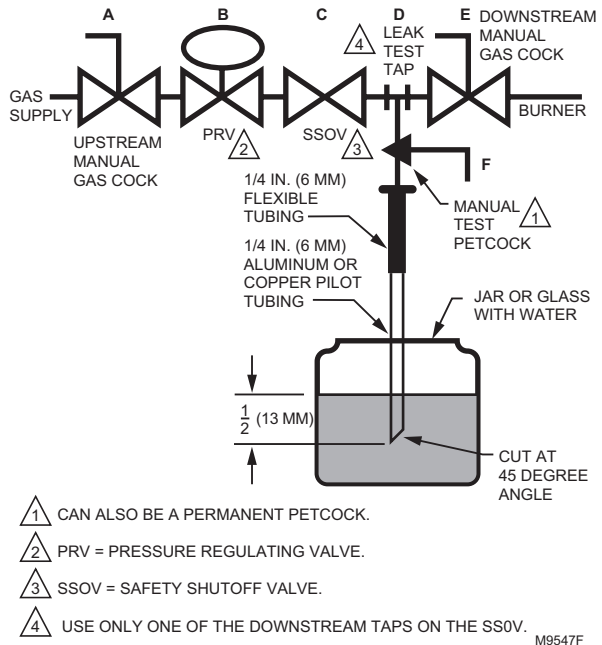

Fig. 7. Valve leak test.
### Valve Leak Test (Fig. 7)
1. De-energize the control system to assure that there is no power to the safety shutoff valve (C) shown in Fig. 7.
2. Close the upstream manual gas cock (A).
3. Make sure the manual test petcock (F) is closed in the leak test tap assembly (D).
4. Remove the leak test tap plug and connect the test apparatus to the Leak Tap (D).
5. Close the downstream manual gas cock (E).
6. Open the upstream manual gas cock (A).
7. Run the safety shutoff valve (C) to its fully open position (through the safety system); then immediately de-energize the system to close the valve.
9. Slowly open the test petcock (F).